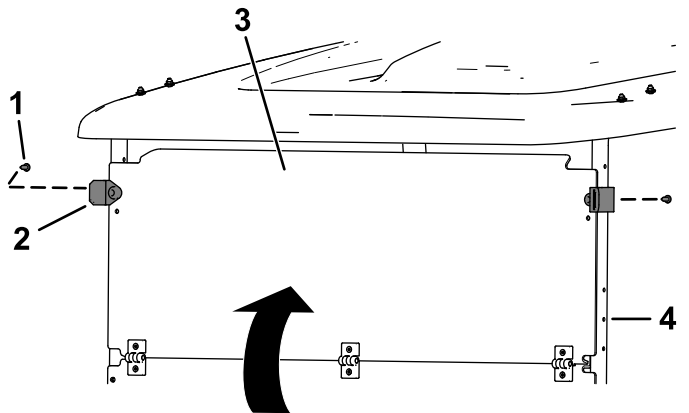

Figure 2
1. Unfold the windshield and secure the upper portion of the windshield to the canopy support tubes using the 2 rubber clamps and 2 short plastic rivets in the upper holes (Figure 2).